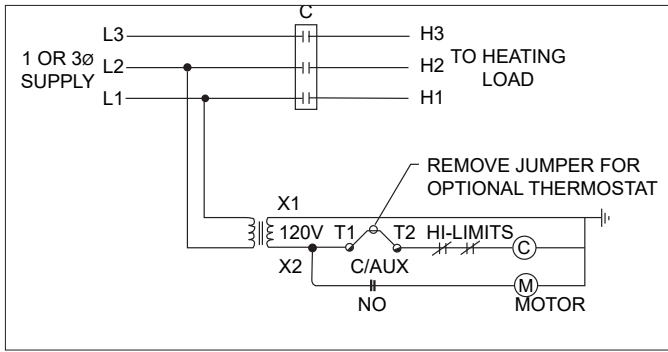
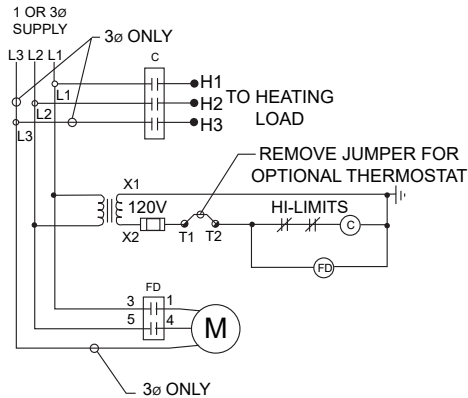
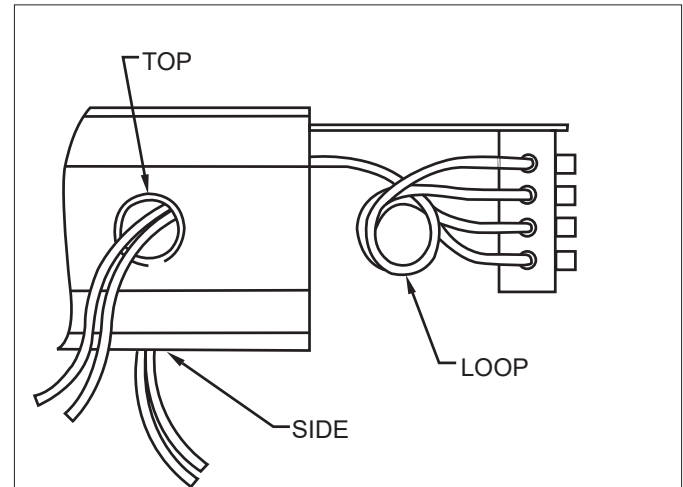

Figure 9 – Small Cabinet Wiring Schematic
Figure 10 – Large Cabinet Wiring Schematic
Figure 11 – Supply Connection
7. Connect the power leads to terminals marked L1 and L2 for single phase and L1, L2 and L3 for three phase heaters making certain to leave some excess wire to ensure that the leads may slide back into the housing with the trolley. See Figure 9 and Figure 10, page 9 for control circuit and Figure 11, page 9 for suggested wiring. Exercise care to avoid damage to wires caused by threads on the housing.
8. Connect the ground wire to the ground connection located in the supply connection housing; once again, making sure that the wire is sufficiently long to slide back into the housing with the trolley. See Figure 11, page 9.
Install the XT thermostat in accordance with the instruction sheet provided. Terminals "T1" and "T2" in the heater supply housing are provided for connection to the remote thermostat and are pre-wired to the rest of the control circuit. Remove the jumper wire between "T1" and "T2" and connect the thermostat to these terminals. (Refer to Figure 9 and Figure 10, page 9). Set the temperature to the desired operating condition.